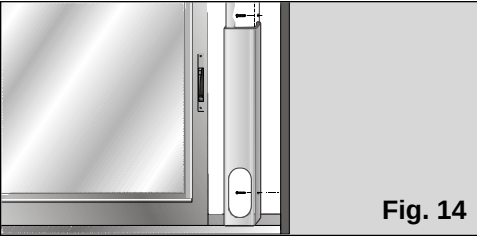

Fig. 14
- ☐ The accessory has two holes on the side to fit it to the window / balcony with. The user can secure it to the frame or wall with two screws (not included with the accessory) to prevent it from moving or falling out of place, **Fig. 14**.